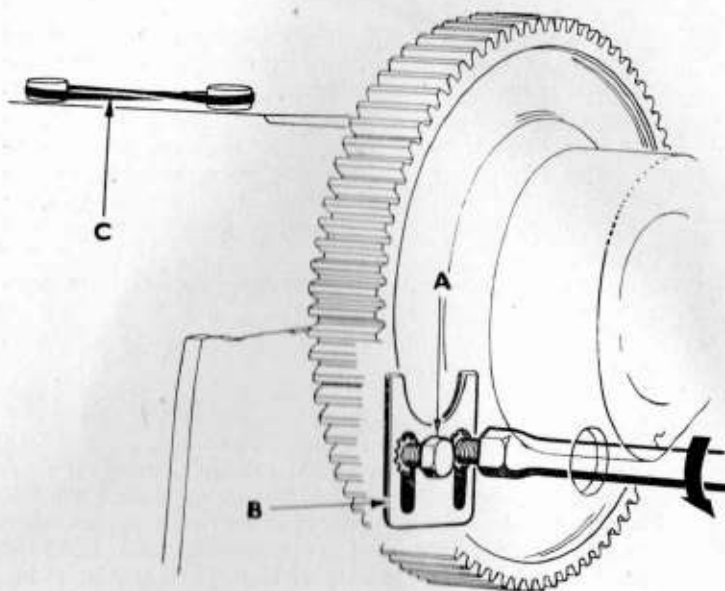

Fig. 4
47. To Remove the Camshaft (Fig. 4).